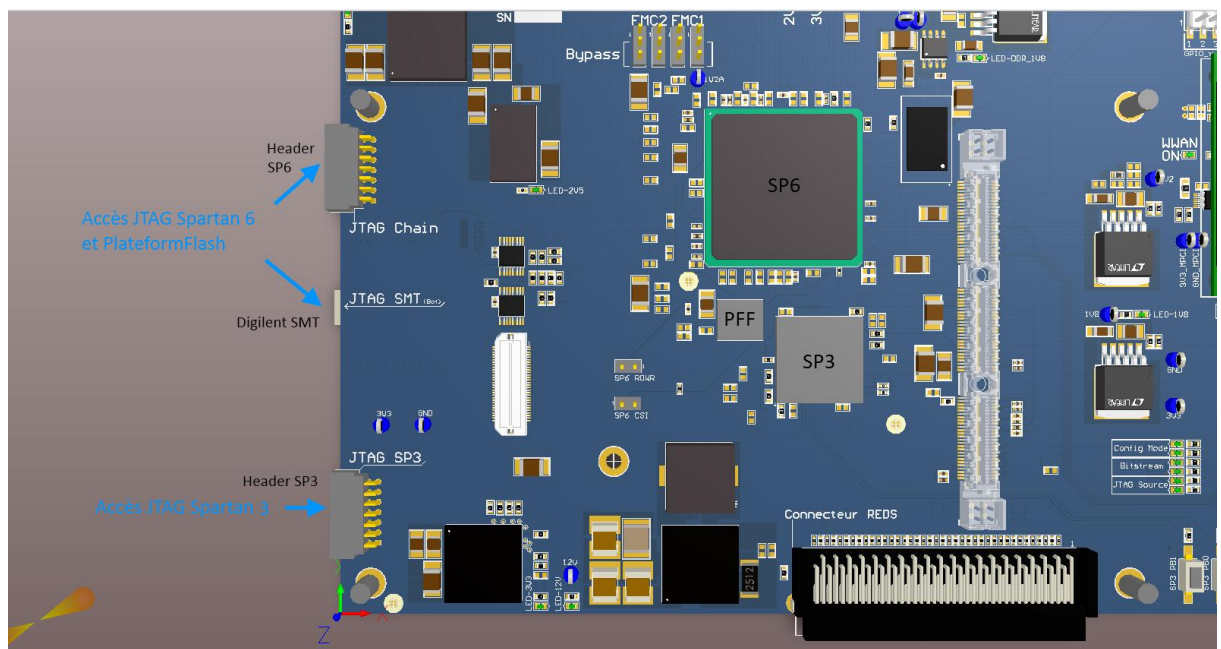

Figure 8 – REPTAR FPGA, JTAG headers and SMT module connector
2. Connect the Xilinx Platform Cable USB to the SP3 header (see Figure 8 – REPTAR FPGA, JTAG headers and SMT module connector)
2. Connect the Xilinx Platform Cable USB to the SP6 header (see Figure 8 – REPTAR FPGA, JTAG headers and SMT module connector)
2. Connect the micro-USB cable to the micro-USB connector of the SMT JTAG or connect the Xilinx Platform Cable USB to the SP6 header (see Figure 8 – REPTAR FPGA, JTAG headers and SMT module connector)